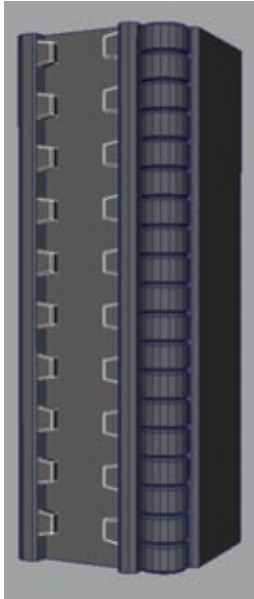

Figure 5.15
16. Bevel the cube and make one end shorter than the other. Place it within the forward-facing ridge. Duplicate it and place it every two units or so down the height of the column. Duplicate the cubes for the other side of the ridge, and you should get something like Figure 5.15.